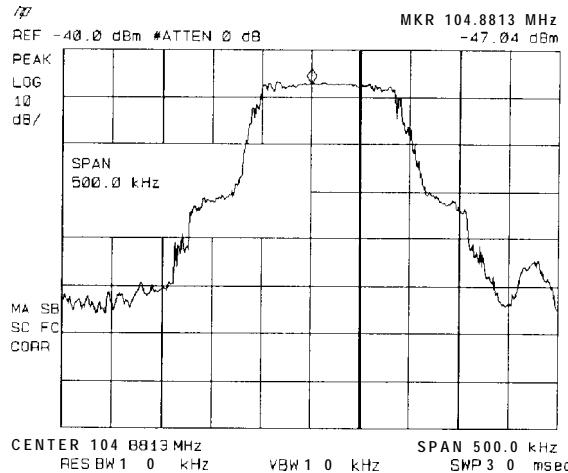

Figure 3-10. Viewing an Unstable Signal Using Max Hold A
5. To measure the excursion of the signal, press **[TRACE]** then **MAX HOLD A**. As the signal varies, maximum hold maintains the maximum responses of the input signal, as shown in Figure 3-10.